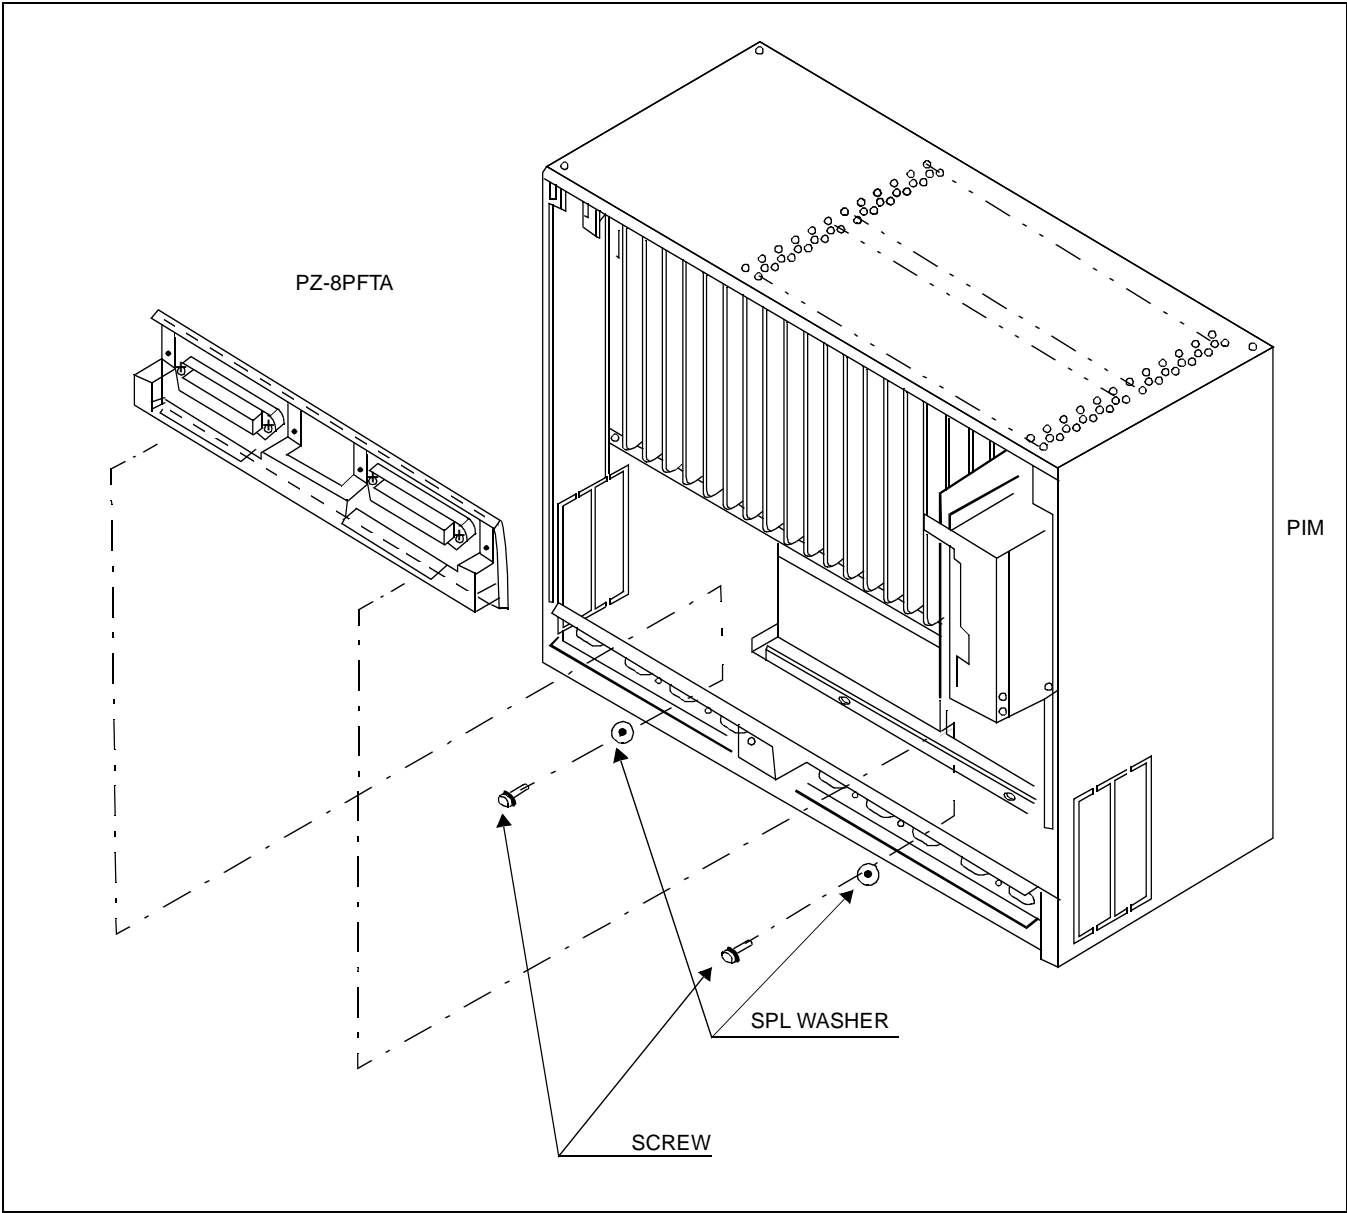

Figure 007-43 Mounting the PZ-8PFTA Card to the PIM
STEP 2: Hook the PZ-8PFTA card at the front bracket on the PIM, and secure them to each other using screws and SPL washers, as shown in Figure 007-43.